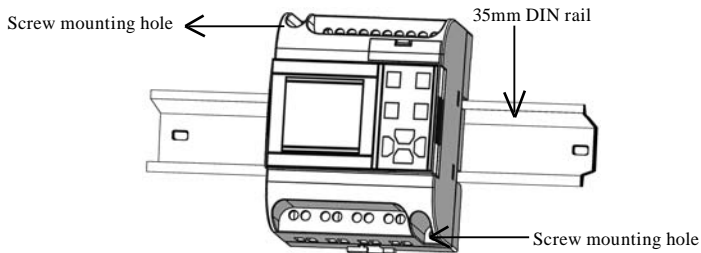

Fig.2.1 Use stand and DIN rail for installation of FAB
1. Use a standard DIN rail for the installation of FAB as shown in Fig. 2.1.